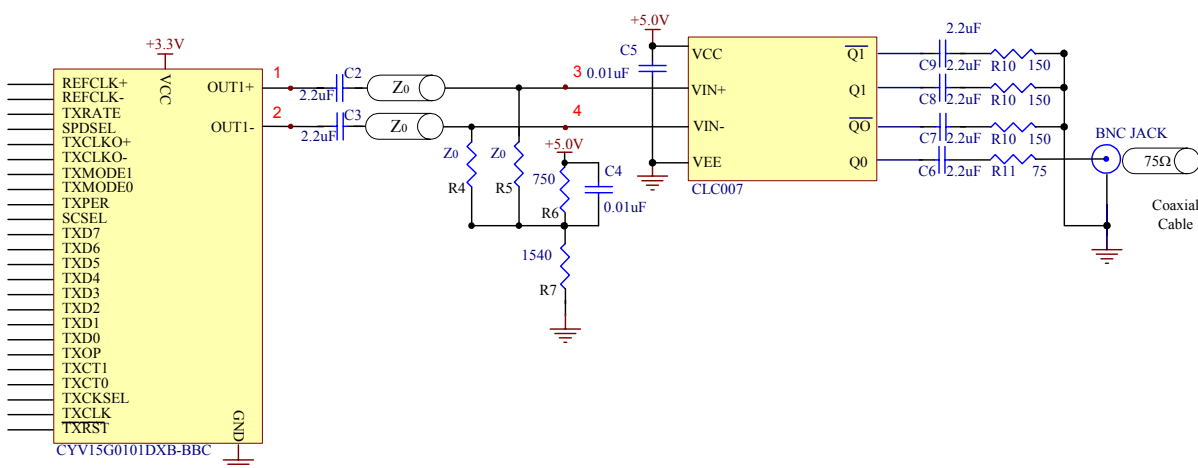
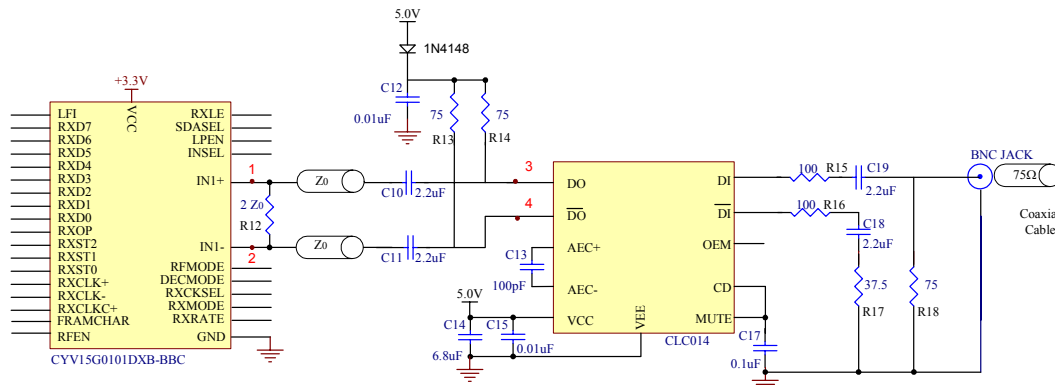

Figure 3. Schematic Diagram of the Connection of the Transmit Portion of the HOTLink II Transceiver with the CLC007 Cable Driver
Figure 4. Schematic Diagram of the Connection of the Receiver Portion of the HOTLink II Transceiver with the CLC014 Adaptive Cable Equalizer
Figure 3 shows the schematic connections between the HOTLink II device and the CLC007 Cable Driver, and Figure 4 shows the schematic connections between the HOTLink II device and the CLC014 Adaptive Cable Equalizer.
In all cases, the CLC007 provides the appropriate 800-mV amplitude swing at the signal outputs. Signals should be coupled to the transmission line using capacitors. This is shown in Figure 3.
It is important to control trace impedances to minimize distortions caused by reflections. The following practices are recommended to ensure good signal integrity. The component names refer to those shown in Figure 3.
Serial data received from a coaxial cable is coupled to the CLC014 adaptive equalizer using an appropriate terminating and coupling network. As with the cable driver, the adaptive equalizer should be coupled to the transmission line using capacitors. This is shown in *Figure 4*.
At the high data rates used to transmit SMPTE SDI data, it is important to control the trace impedances to minimize distortions caused by reflections. The following practices are recommended to optimize performance of the adaptive equalizer. The component names refer to those shown in *Figure 4*.
1. The traces connecting the HOTLink II inputs and equalizer outputs should have a uniform characteristic impedance. *Figure 4* assumes $Z_0=75\Omega$. For 75Ω traces, R12 should be 150Ω , and for 50Ω traces, R12 should be 100Ω .